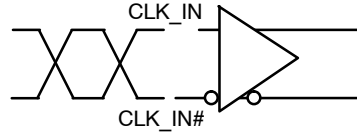

Figure 5. Differential Inputs Driven Differentially
**DIFFERENTIAL INPUTS DRIVEN DIFFERENTIALLY** (Note 8) (Figures 5 and 7)